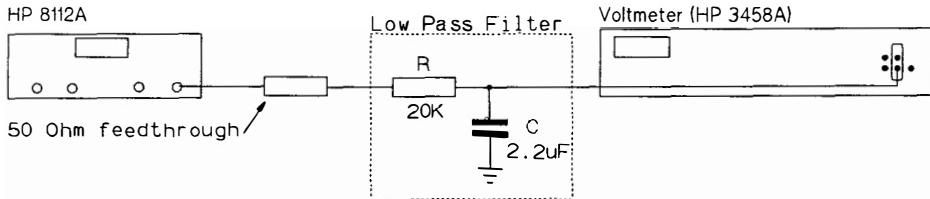

Figure 9-6. Low Pass Filter
- Low pass filter (Refer to Figure 9-6)
13. Set the DVM to read DC voltages. If the DVM does not have a built-in filter, use an external low pass filter, as shown in Figure 9-6.
19. Use the DVM built-in filter and set the DVM to read DC voltages. If the DVM does not have a built-in filter, use an external low pass filter, as shown in Figure 9-6.
27. Use the DVM built-in filter and set the DVM to read DC voltages. If the DVM does not have a built-in filter, use an external low pass filter, as shown in Figure 9-6.
35. Connect the HP 8112A main output via an exact 50Ω 0.1% feedthrough terminator to the DVM, and enable the DVM built-in filter. If the DVM does not have a built in filter, use a low-pass filter as shown in Figure 9-6.